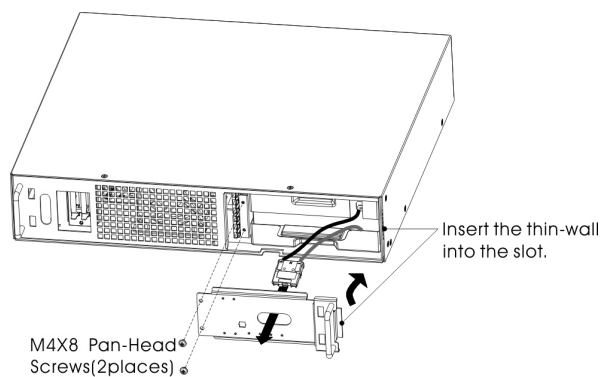

Fig.4 Installation for battery pack baffle(UPS)
3. Remove the connection cables between battery box and UPS. Release the screw of the baffle of the battery pack as the Fig4 shows, then remove the baffle from the left.
4. Grasp the handle in front of the battery pack, take out of it and hold it, then remove the battery pack. (see Fig.4)